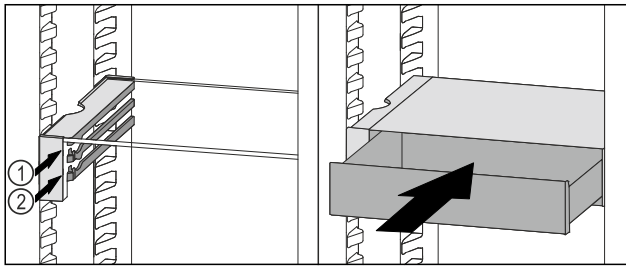

Fig. 78
- Place the VarioSafe drawer behind the stoppers on desired rib Fig. 78 (1) or Fig. 78 (2).